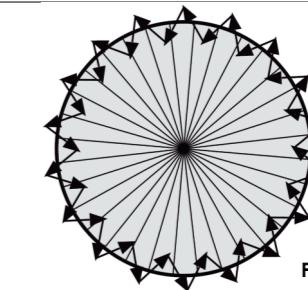

FIG. 12
- 4.4.4 Walk from outside across to the detection pattern until LED turns on for approx. 2sec then off, the next trigger should be 2sec interval (See FIG.12).